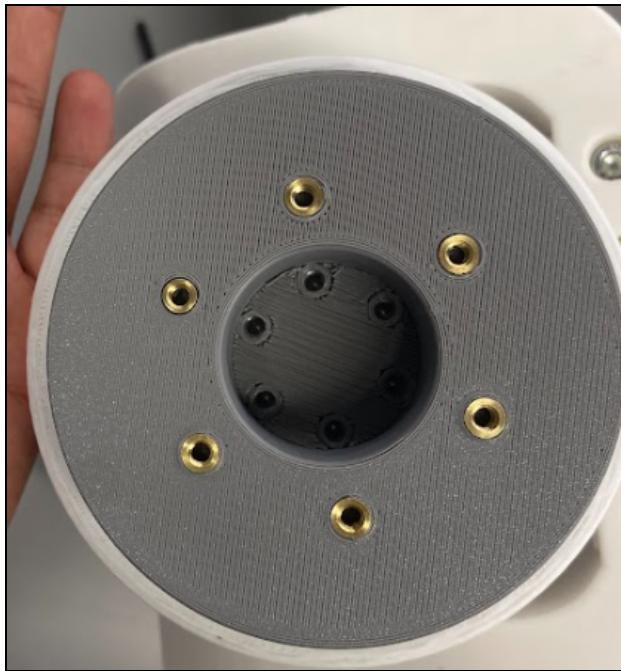

Figure 33: J4 Mushroom Cap Heat set inserts
- The M4 Heat set inserts fully installed can be seen below in Figure 33.